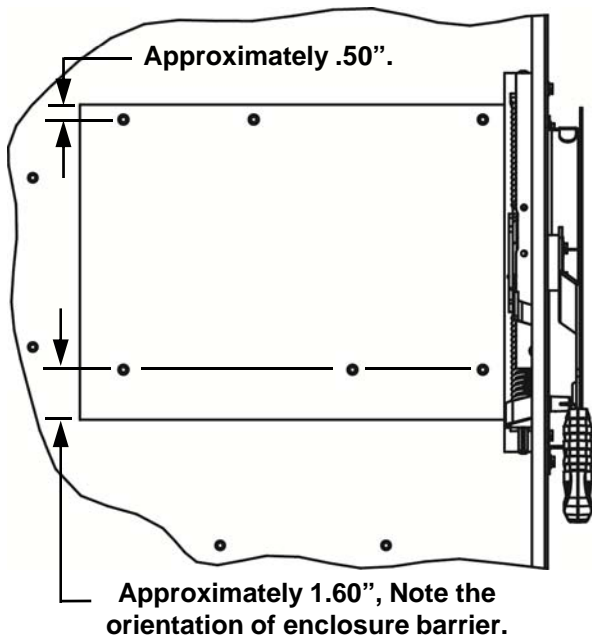

Fig. 9
- Align the enclosure barrier to the extruded mounting holes on the enclosure as shown in Fig. 9.